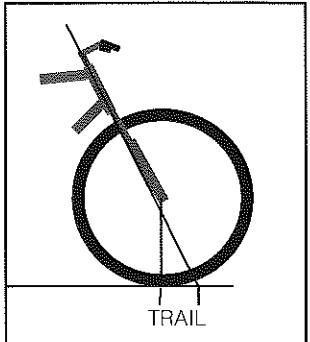

Fig. 4
**Trail** is the measurement on the ground of the distance from the steering axis to the contact patch of the front tire, measured by a vertical line through the front axle (Fig. 4). It is the effect of fork rake combined with head tube angle. In actual riding of the bike, trail is further defined by the interaction with the rider's Center of Gravity